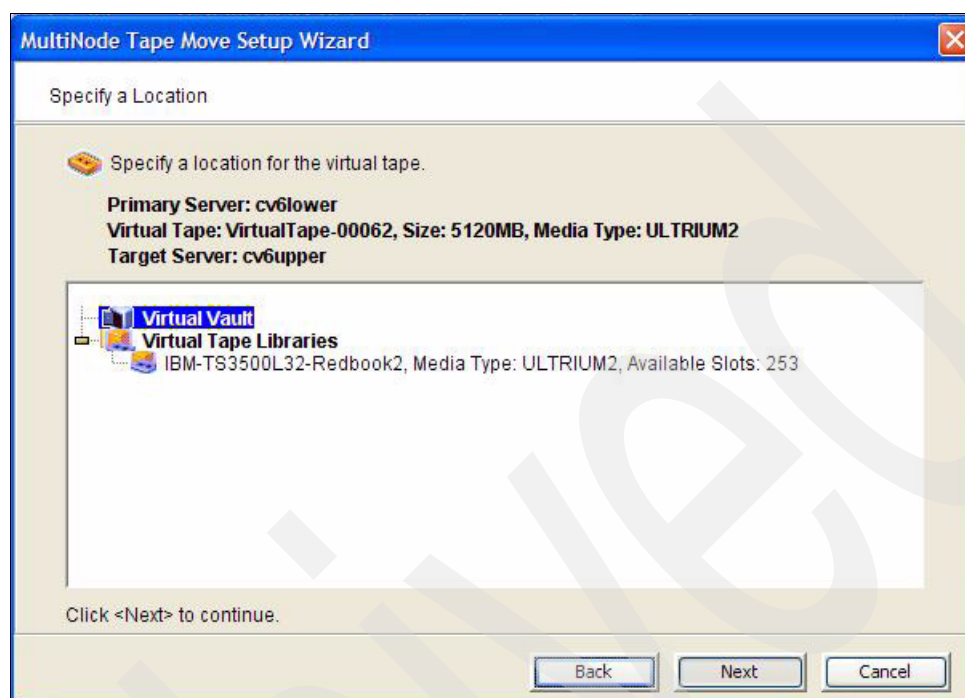

Figure 12-32 Selecting target location for the virtual tape
- The next window is optional. By default the virtual tape is moved to the virtual vault of the target TS7530 node. You can select the virtual library where you want to assign the virtual tape and then click **Next**. See Figure 12-32.